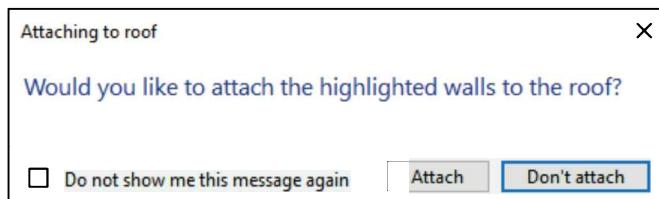

FIGURE 8-3.7 Prompt
21. Click **Attach** when prompted to attach the highlighted walls to the roof (Figure 8-3.7).